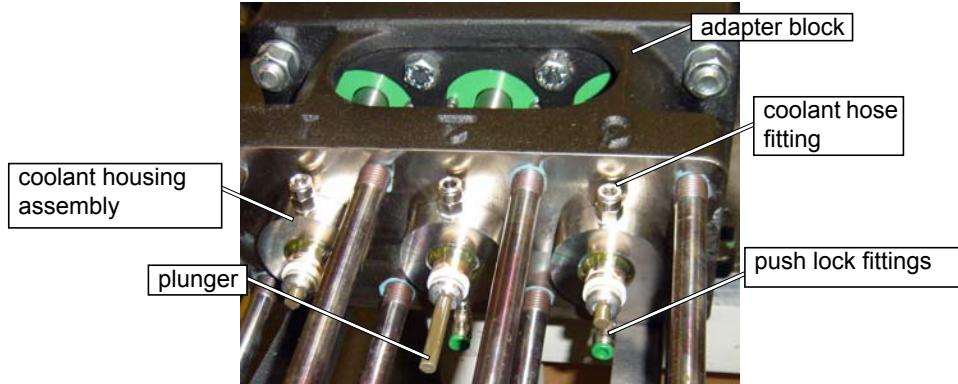

Figure 6-36
1. Remove **coolant housing assemblies** (Figure 6-36) by sliding them forward until they clear the end of the **plungers**. The **coolant housing** fits snugly to the bore in the **adapter block** (Figure 6-36) and may be difficult to remove. Use the two fittings, top and bottom, of the coolant housing to rotate the assembly while removing it. During removal, keep it aligned with the bore.
1. Remove **coolant housings** (Figure 6-36), if not already removed.